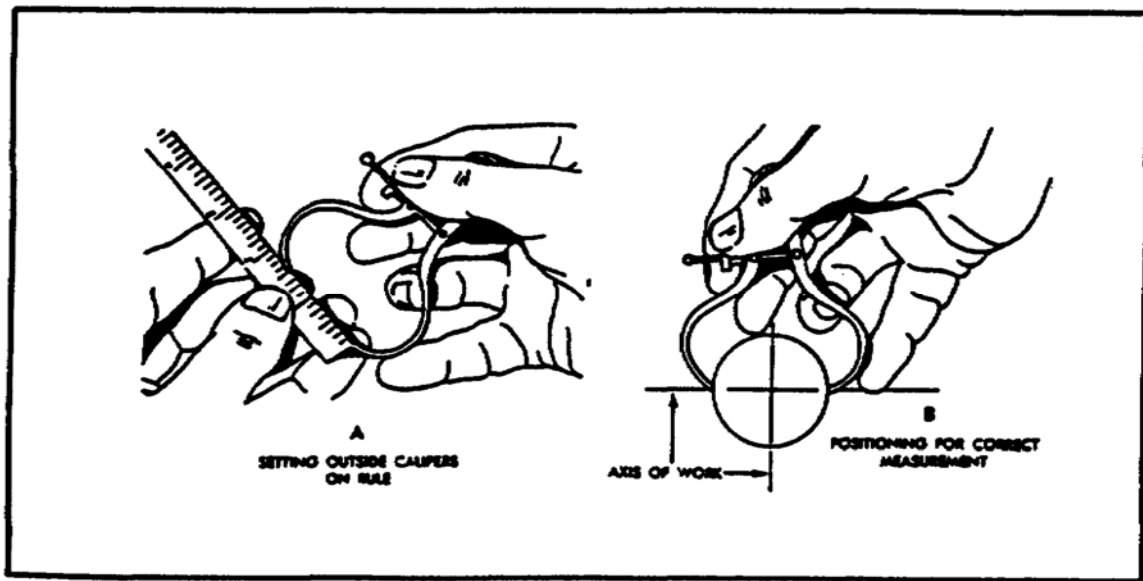

FIGURE 180. USING OUTSIDE CALIPERS.
(1) *Outside Calipers.* A caliper is usually used in one of two ways. Either the caliper is set to the dimension of the work and the dimension transferred to a scale, or the caliper is set on a scale and the work machined until it checks with the dimension set up on the caliper. To adjust an outside caliper to a scale dimension, one leg of the caliper should be held firmly against one end of the scale and the other leg adjusted to the desired dimension, as shown in figure 180, view A, on the previous page. To adjust the outside caliper to the work, a sense of feel must be acquired. This comes through practice and care in using the tool to eliminate the possibility of error. Always position the caliper properly on the axis of the work, as shown in figure 180, view B.